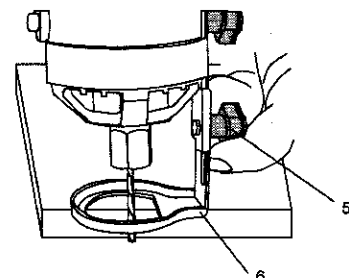

Fig. 5
1. Adjust freehand sole plate depth by loosening the depth gauge knob (5) and sliding the sole plate (6) in or out as required (see Fig. 5).
4. Adjust depth of freehand sole plate as shown in Fig. 5.